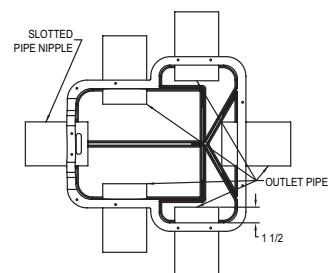

Figure 3.1
- 3.2) Insert necessary trench pipes into basin, pushing through approximately $1\frac{1}{2}$ ". See Figure 3.1. The number of pipes varies for each installation.